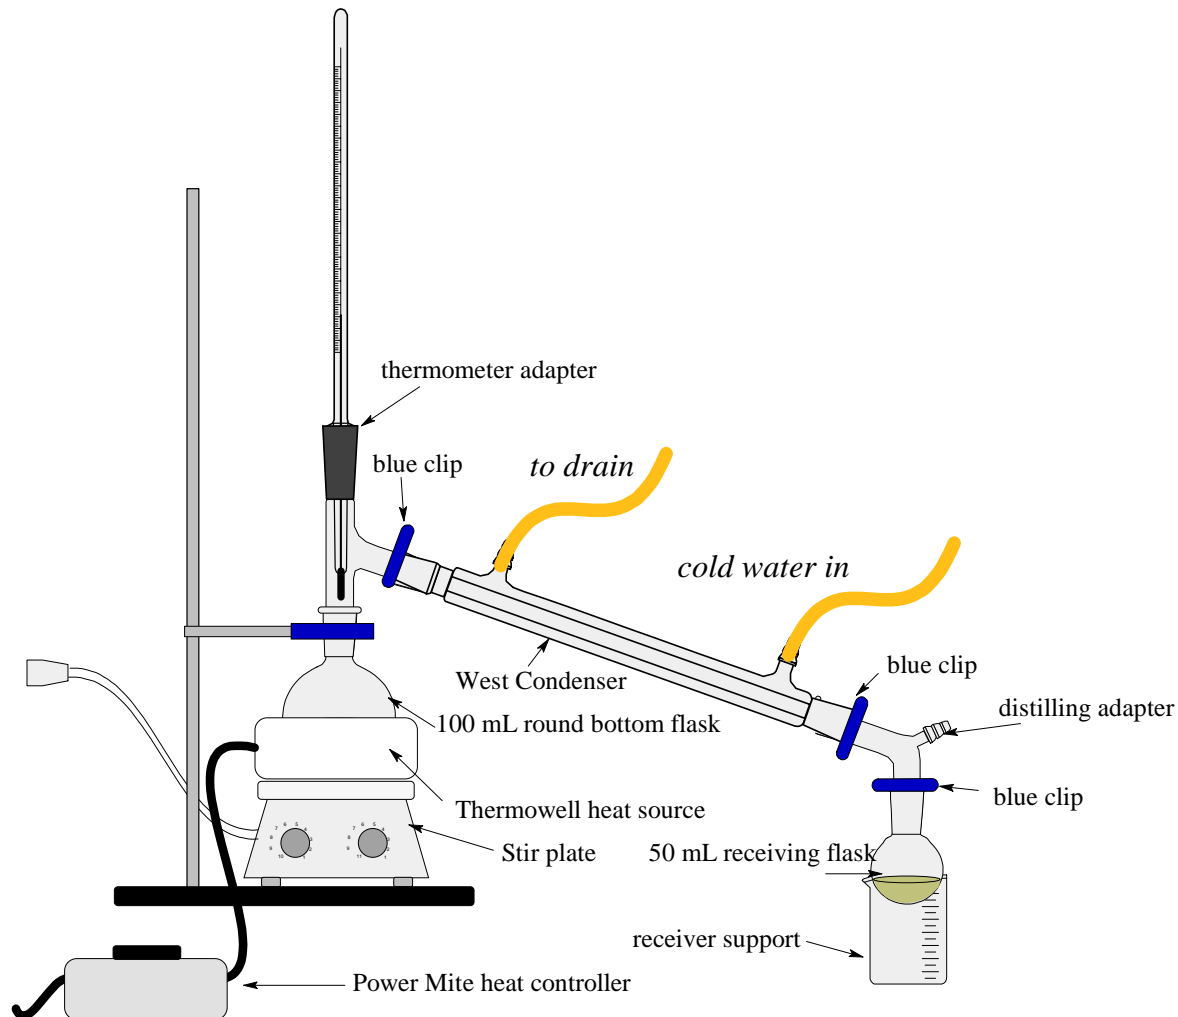

Figure 1. Distillation Apparatus
- Assemble the apparatus as depicted in Figure 1 as follows: